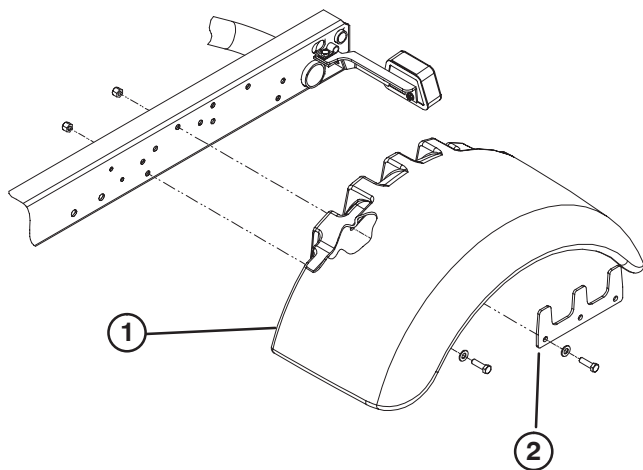

Figure 2
4. Loosely secure a fender to each side of frame with a support plate, (5) 3/8–16 x 1.25" lg. capscrews, .406" I.D. washers and (4) locknuts as shown in figure 2. A weld nut is in place to secure each rear capscrew.